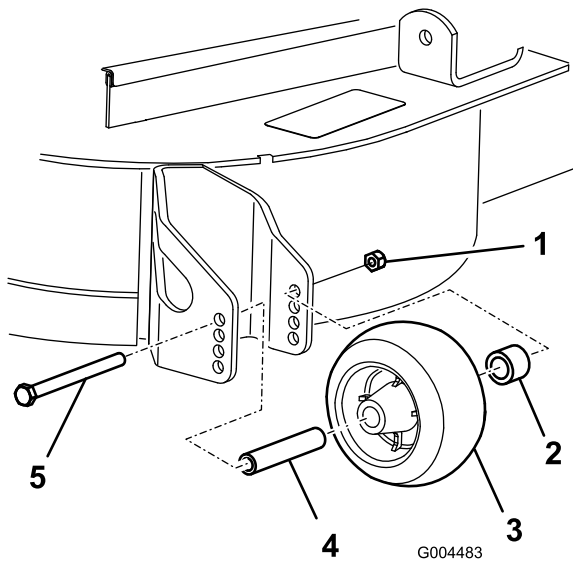

Figure 23
3. After adjusting the height-of-cut, adjust the rollers by removing the flange nut, bushing, spacer, and bolt (Figure 23).
5. Install the flange nut, bushing, spacer, and bolt. Torque to 40-45 ft-lb (54-61 N·m) (Figure 23).